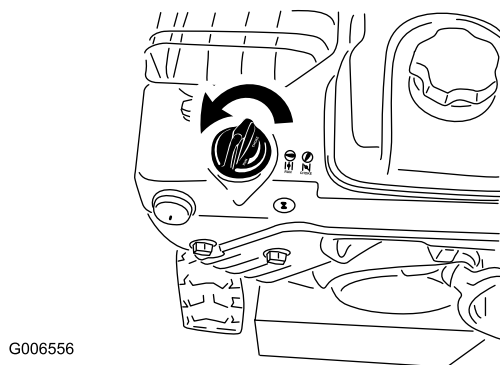

Figure 22
5. Rotate the choke to the Choke position (Figure 22).